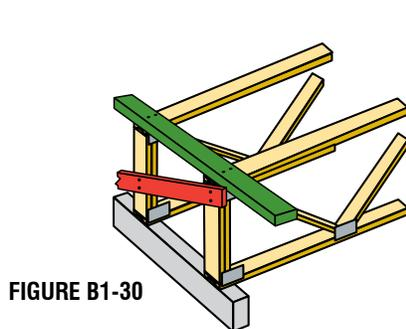

FIGURE B1-30
- ✔ **NOTE:** End diagonals, with TCTLR or Ribbon (band) board, blocking panels, or rim board as specified by the Building Designer, are essential for stability and must be installed on both ends of the Truss System and repeated every 10 Truss spaces (20' maximum). See Figures B1-30, 31, 32 and 33.